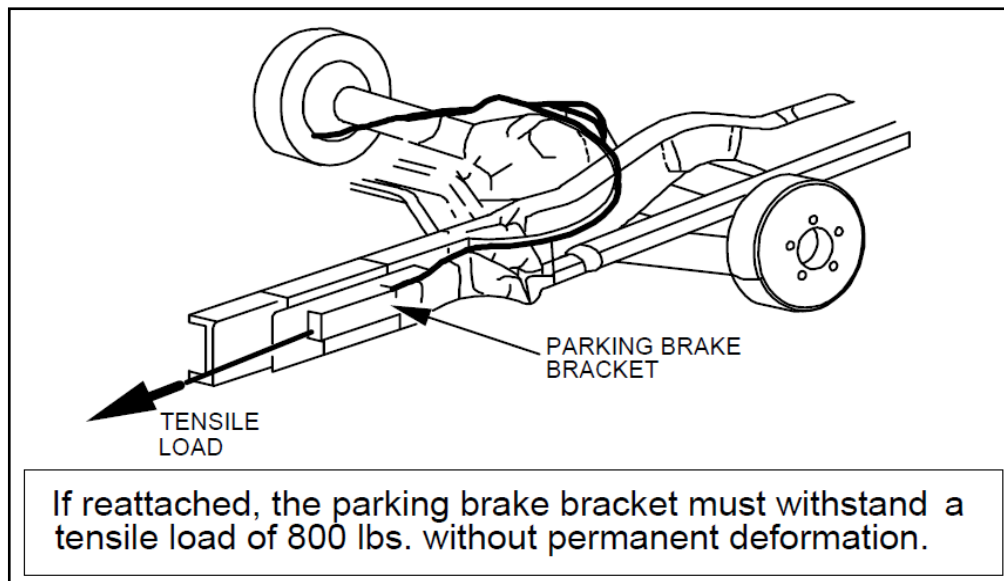

Figure 17 – Parking Brake Bracket Strength
- Parking brake cable bracket attachment to the frame must be able to withstand a tension load of 363 kg (800 pounds), without any significant deflection. See Figure 17.